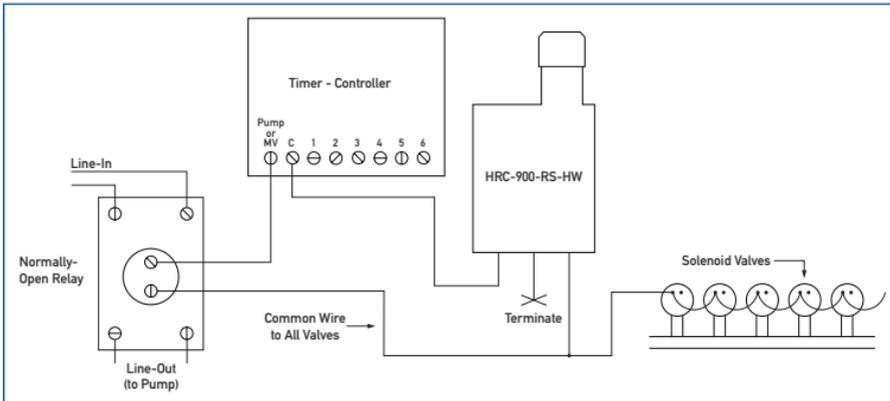

Figure 3: Wiring
- B. 24-Volt Solenoid Valves with booster pump (See Figure 3). Locate the common wire to the solenoid valves and the common wire lead to the coil of the relay that starts the pump. If these two wires are connected to the "common" terminal on the controller, disconnect both of them. Twist these two wires together along with one wire from the sensor and secure with a wire nut. Attach the other wire of the sensor to the "common" terminal on the controller. **Note: The pump circuit output must be 24 volts in this situation if different do not proceed.**